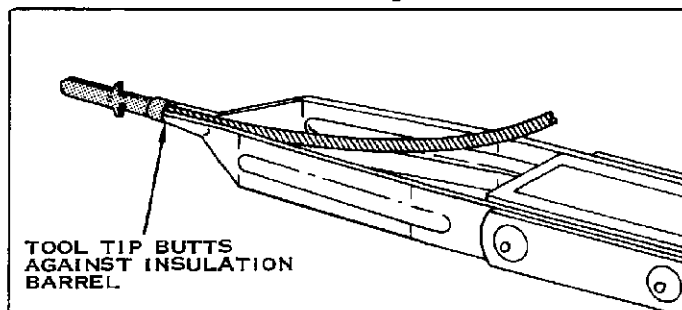

FIGURE 2
1. Place the Tool Tips against the Contact's insulation barrel as shown in Figure 2.